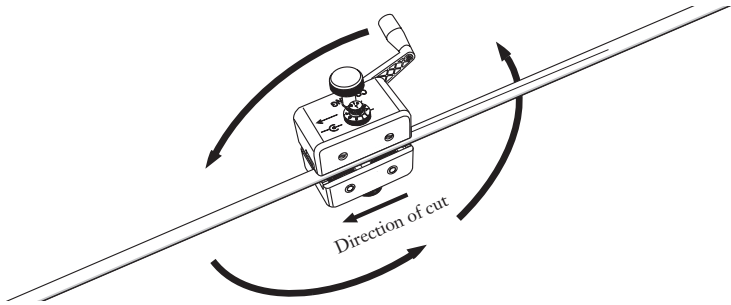

Figure 12
7.3 With initial blade depths set and the thumbscrew loosely tightened, advance the tool approximately 6 in (15.24 cm) by turning the handle in the direction of the arrow marked on the tool (Figure 12).